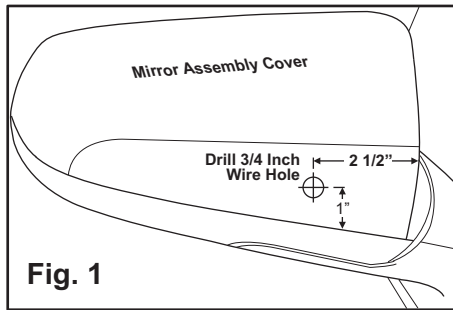

Fig. 1
1. Remove the mirror assembly cover and mark off the wire hole location onto the front of the mirror assembly cover measuring 2 1/2" from the inboard edge of the cover and 1" from the bottom edge of the cover. Drill the wire hole using a half inch drill bit (Fig. 1).